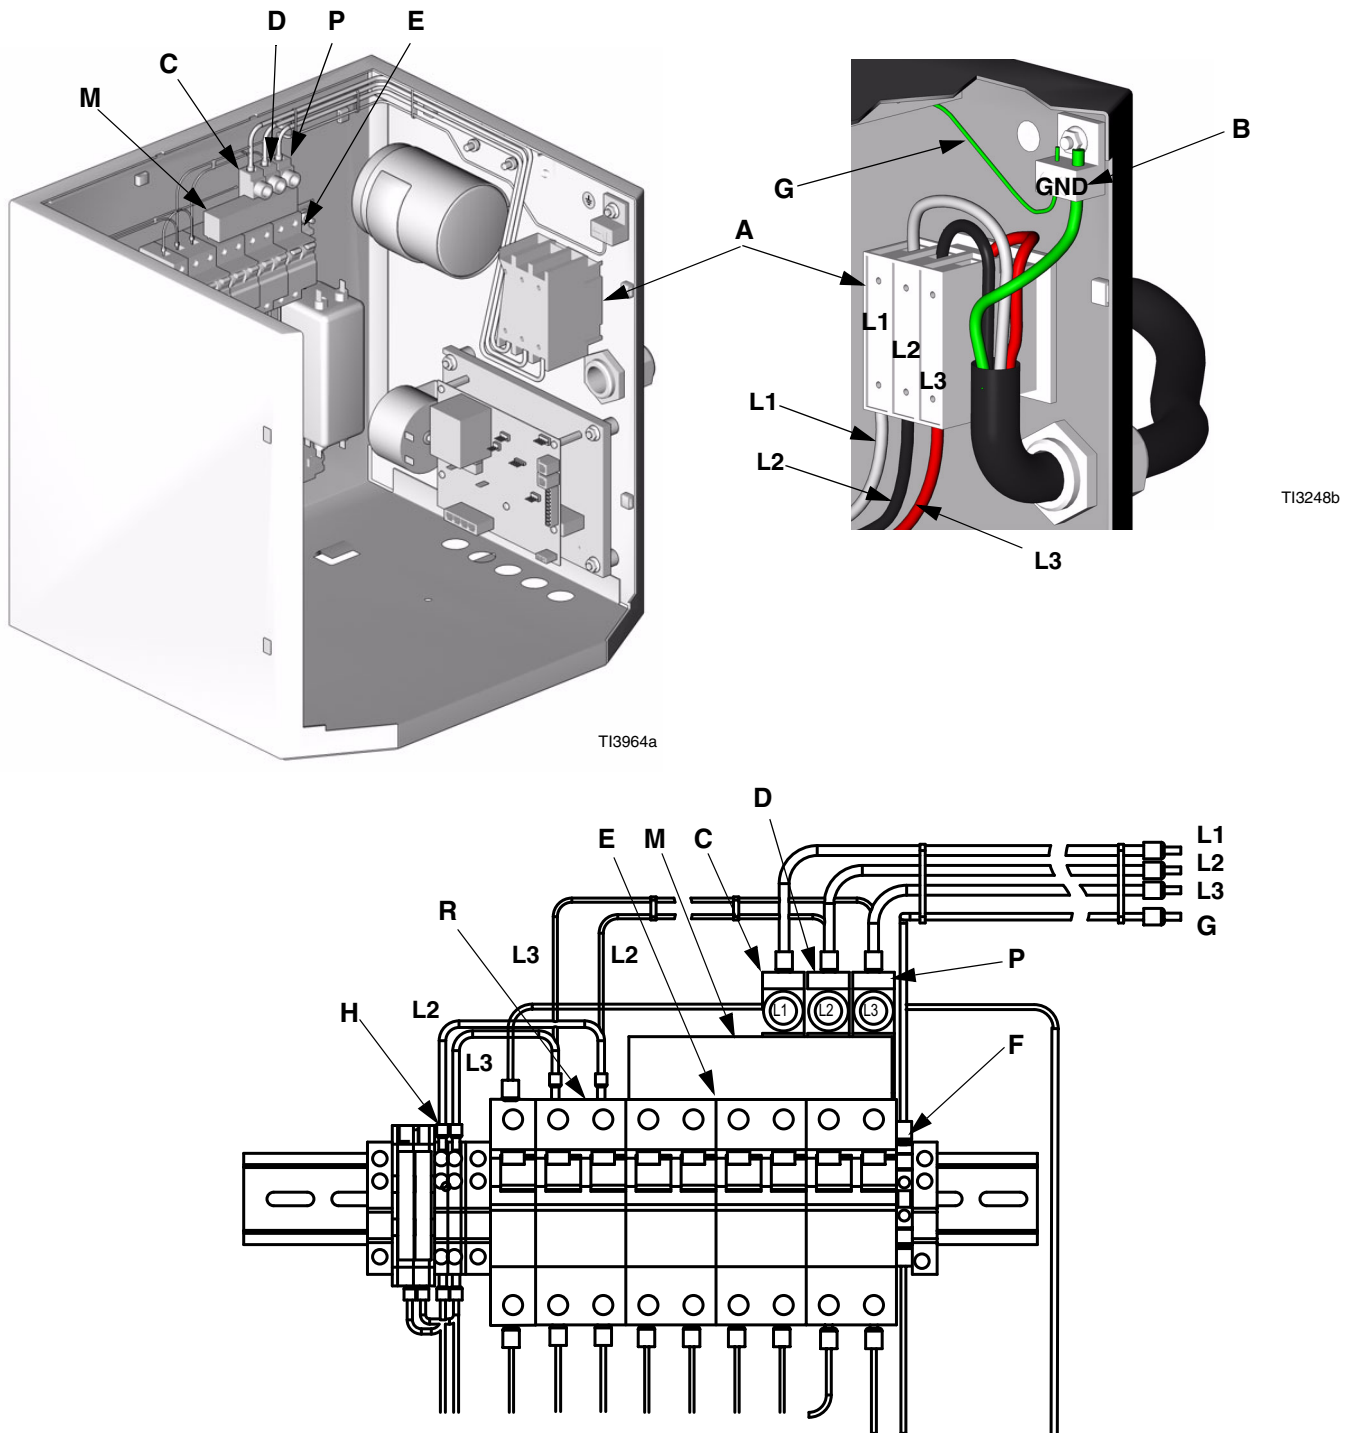

FIG. 1. Remove 3 Phase Hardware and Wire Harness
3. See FIG. 1 on page 2. Using 5/32 or 4 mm hex allen wrench, disconnect wire harness (L1, L2, L3) from disconnect switch (A). Do not disconnect the main power leads.
4. Disconnect wire harness ground wire (G) from ground terminal (B).
5. Using a flat blade screw driver, disconnect other end of L1, L2, L3 wires from connectors (C, D, P) at circuit breaker module (E). Disconnect other end of ground wire (G) from ground terminal (F) at right of circuit breaker module.